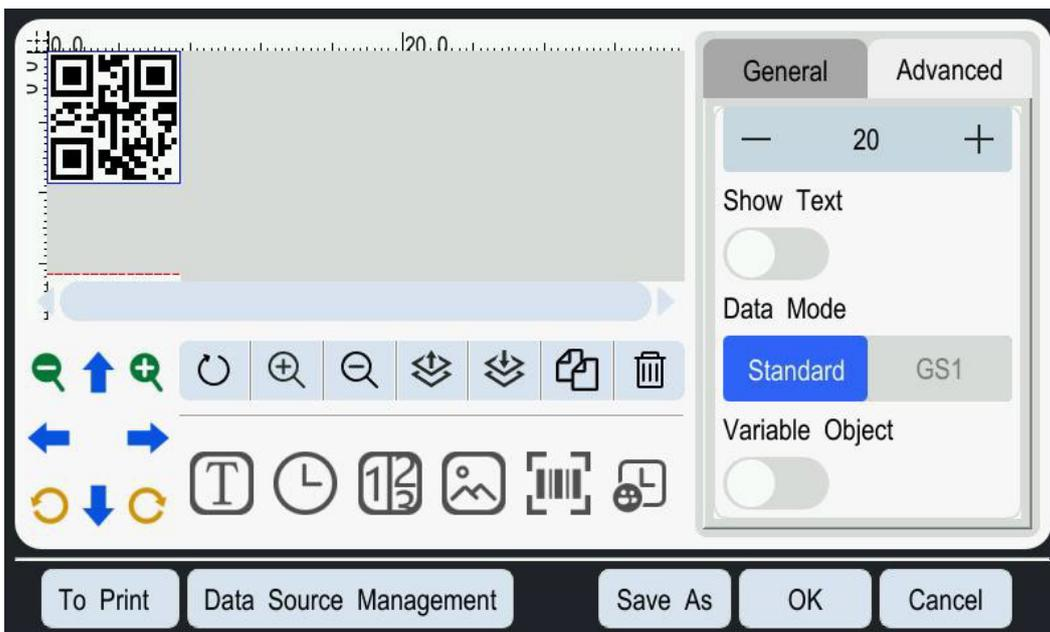

Figure 5-9: Barcode Editing Interface
1. To print a barcode, click the Barcode button . A default QR code item will appear in the preview area, as shown in Figure 5-9.